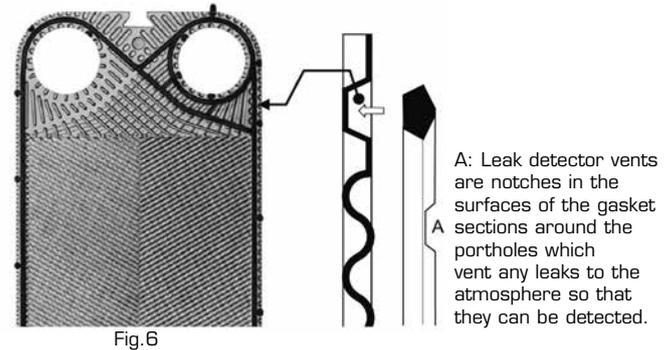
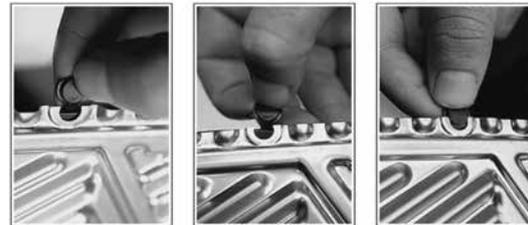

Fig.6
Fig.7
- Press the gasket onto the plate (Fig. 6), making sure that the leak detector vents, "A", are facing up and check that the Plug-In® tabs are hooked into their respective notches (Fig. 7). Make sure that the gasket is properly seated in its notch, then turn the plate over to check again that all the Plug-In® tabs are correctly in place.